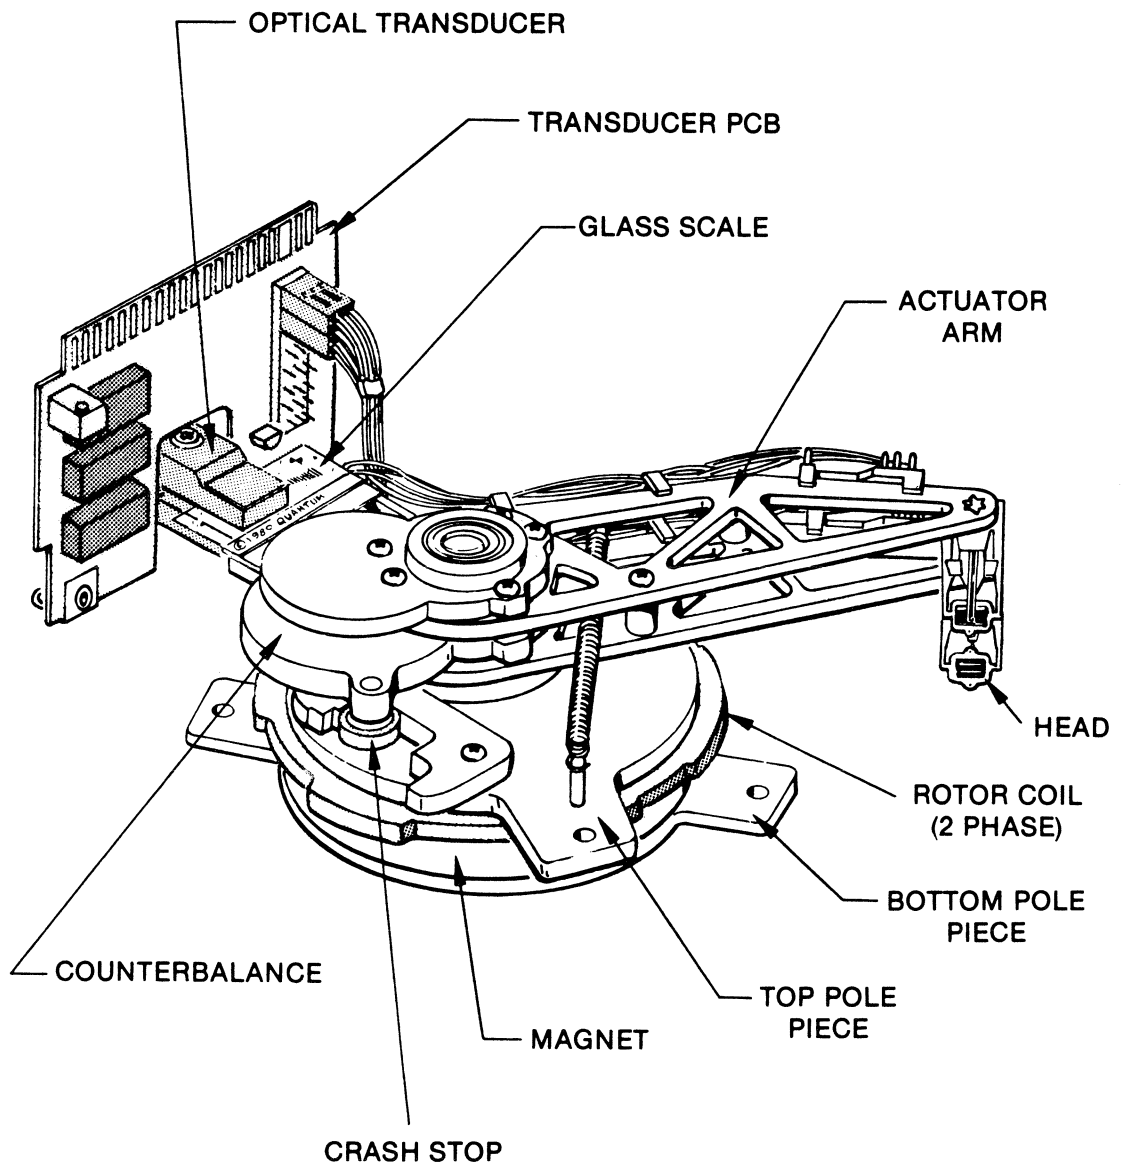

Figure 3. Head Positioning Mechanism
2.5.1 Rotary Torque Motor Actuator (Fig. 3)